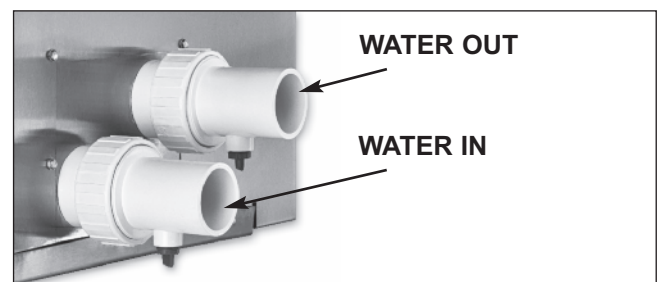

Fig. 3: Water Connections
6. Drain plugs are located on each union fitting as shown in Fig. 3 for draining the system during winterizing.
**NOTE:** While it is possible to mount the upper union with the drain plug vertically, Raypak has determined that installing both unions with the drain plugs facing down as shown in Fig. 3 provides for the best draining of the system.